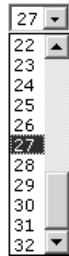

Figure 6-18 — Output selection drop box
1. Click the output drop box. A drop down scroll box appears (figure 6-18).